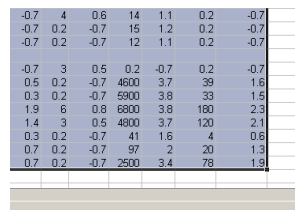

Figure 31-19. Highlighting your data in Excel.
2. Starting with the top left-hand cell, highlight all twenty-seven zones and nine variables, as shown in Figure 31-19.